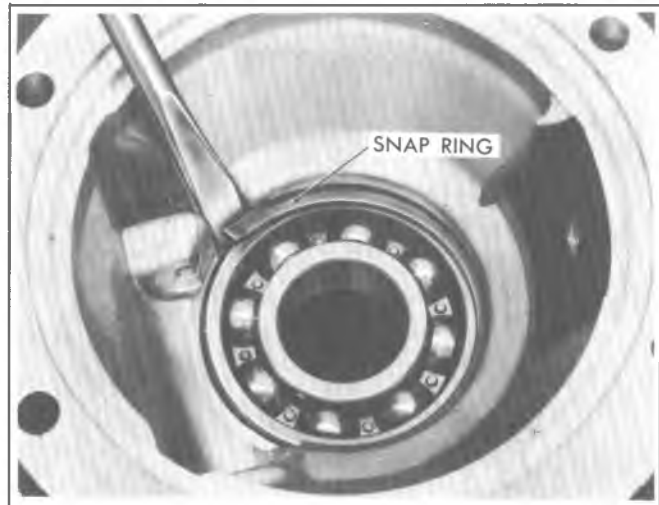

Fig. 7D-17S--Removing Rear Output Bearing Retaining Ring
3. Position rear seal to bore and drive into place using tool J-22388 (Fig. 7D-19S) or other suitable tool until approximately 1/8" to 3/16" below housing face.